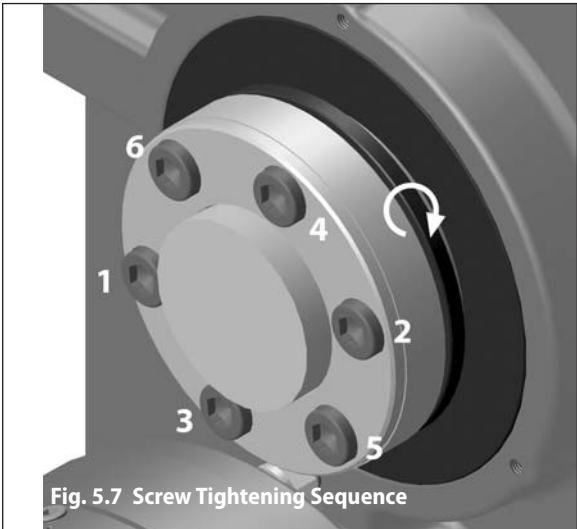

Fig. 5.7 Screw Tightening Sequence
Step 7 – With a torque wrench, gradually tighten the capscrews to engage the bushing system. Use the appropriate tightening pattern ("star-pattern" see Fig. 5.7) to assure complete bushing engagement. Tighten each capscrew to the torque values shown in this table: